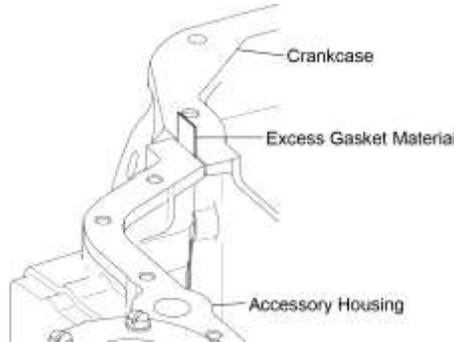

Figure 11
- C. Remove (cut away) any excess accessory housing gasket material that extends to the oil sump mounting surface. Excess gasket material must not extend between the accessory housing and crankcase. The gasket must be flush with the oil sump flange (Figure 11).